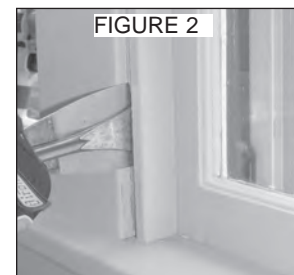

FIGURE 2
2. Use a pry bar or stiff putty knife to pry side and head inside stop mouldings away from jambs (ITEMS 3 & 21 FIGURE 1). Also see (FIGURES 2 & 3).